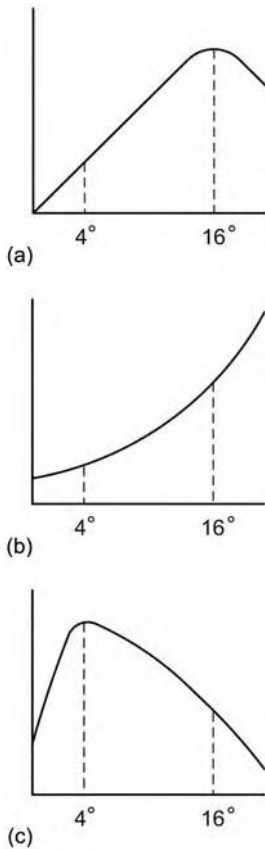

Figure 7.77
22. Which of the three graphs (Figure 7.77) correctly shows the relationship between C_L and angle of attack for a symmetrical aerofoil?